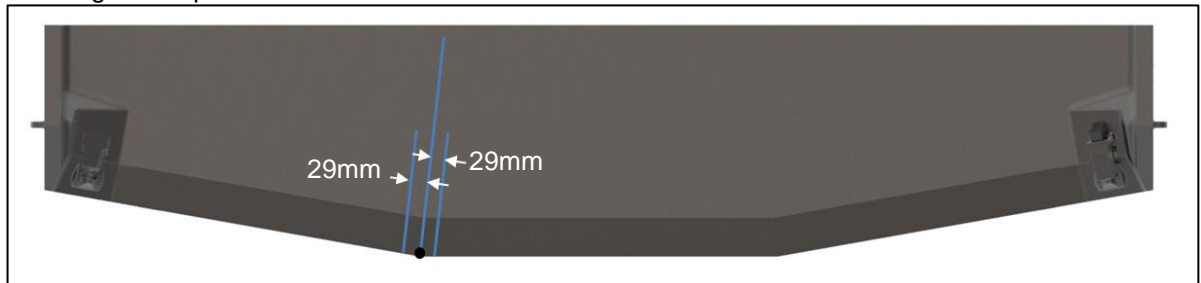

Figure 19 Parallel Lines
2.12.5. Mark 29mm parallel lines to the center line as shown in Figure 19. These secondary parallel lines are a guide to position the inside faces of the boss feature.